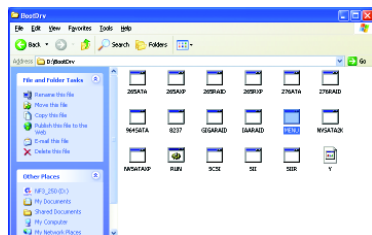

Figure 8
Step 2: Go to My Computer and right-click the CD-ROM icon (This procedure assumes Drive D) and select Open. Then you will see folders and files contained in the driver CD. Double-click the BootDrv folder icon and select **MENU.exe** (refer to Figure.8).